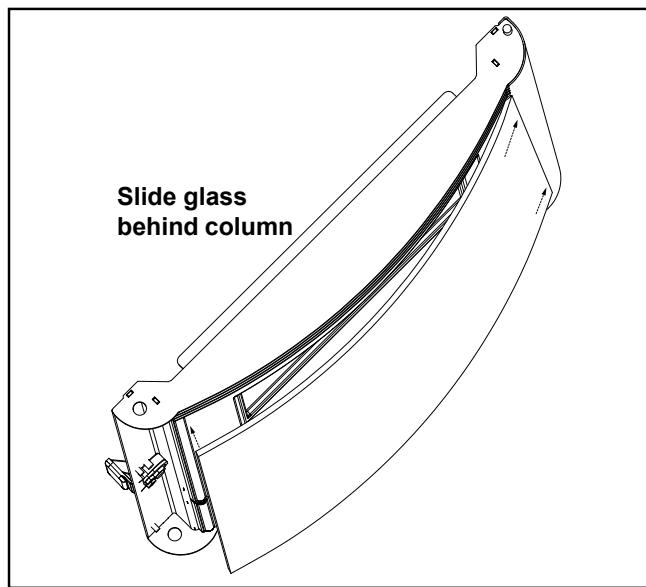
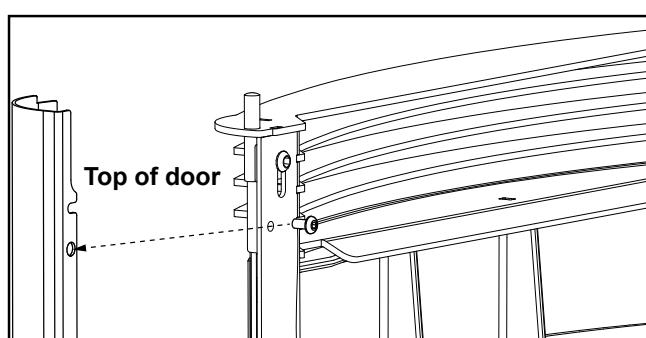

Figure 3
Figure 4
**Step 3 - Installing glass:** **If glass is not being installed move onto step 4.** Install right side column, do not tighten screws. Prior to installing glass make sure the end marked "Top" is up. Slide glass behind right hand column and push glass flush with door and center glass. Figure 3. Install the left column and tighten (3) 10-24 x 3/8" Button Head Screws at the top, center and bottom of the door, tighten right side column. Figure 4. **Note: Use 1/8" Allen Wrench supplied with stove.**
**Step 4 - Installing columns with no glass:** Door must be slightly open. Insert right column from the side. While holding column to the door swing door open and install (3) 10-24 x 3/8" Button Head Screws at the top, center and bottom of the door. Figure 4. Repeat step for other side. **Note: Use 1/8" Allen Wrench supplied with stove.**